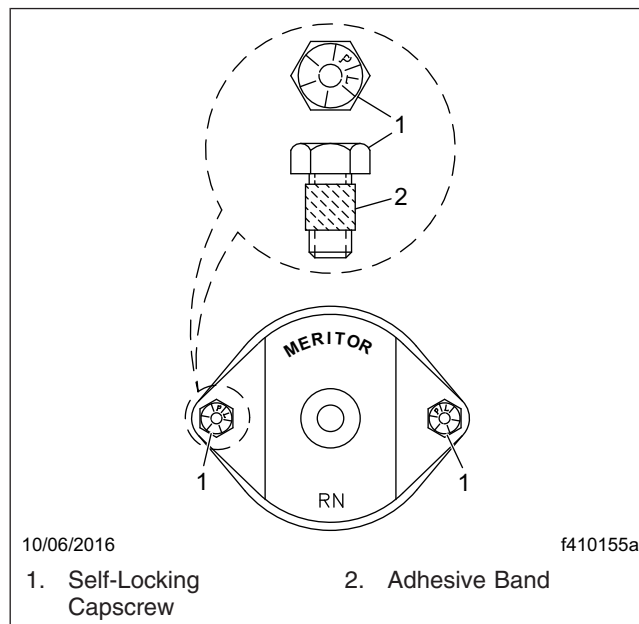

Fig. 1, Meritor U-Joint Fasteners for Bearing Caps
2. For driveline universal joints with bearing caps, tighten bearing-cap capscrews 43 lbf-ft (49 N·m). See Fig. 1, Ref. 1.